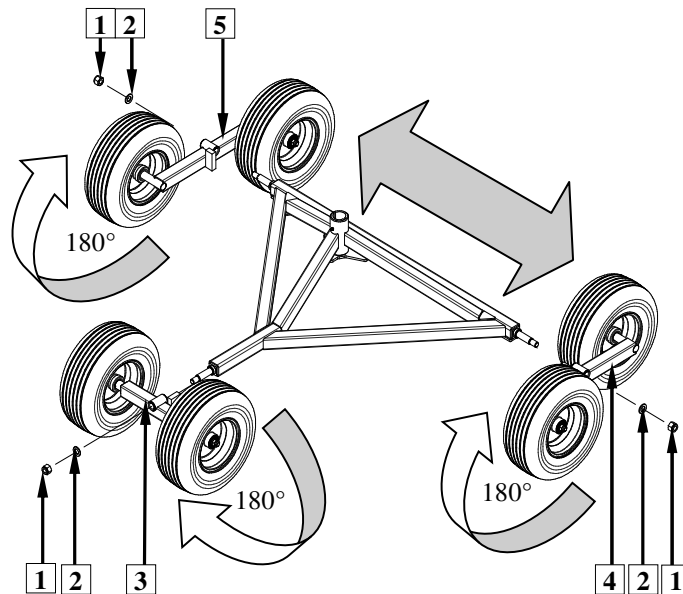

Fig. 16. Increasing working width by means of wheel trolley in Z2-780 rotary rake
- on peat meadows it is possible to increase the distance of tines from the ground by shifting arms of wheels' trolley. In rotary rake Z2-780 unscrew the nut (1) and remove washer (2), pull out front arm. (3) and rotate it by 180°. Rotate left (4) and right arm (5) by 180° and swap them (Fig. 16),